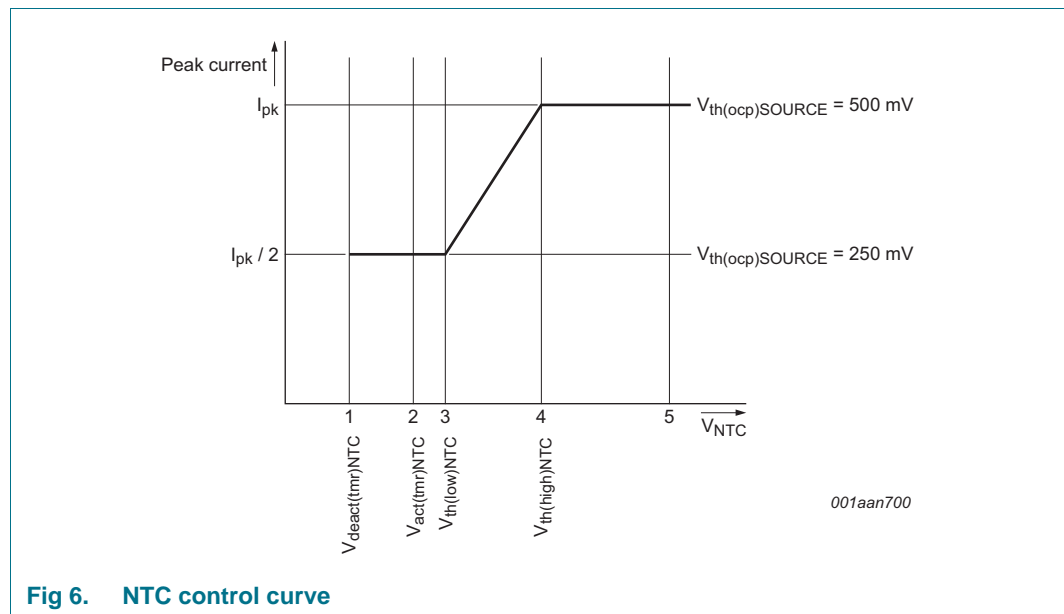

Fig 6. NTC control curve
Alternatively, the pin can be used as an input to disable/enable light output using a digital signal (PWM dimming). The pin has an internal current source which generates a current  $I_{offset(NTC)}$ . An NTC resistor, for monitoring the LED temperature, can be directly connected to the NTC pin. Depending on the resistance value and the corresponding NTC pin voltage, the converter reacts as shown in Figure 6
When the voltage on the NTC pin is higher than  $V_{th(high)NTC}$ , see Figure 6\(4\), the converter delivers nominal output current. When the voltage is lower than this level, the peak current is gradually reduced until  $V_{th(low)NTC}$  is reached, see Figure 6\(3\). The peak current is now half the peak current of nominal operation. When  $V_{act(tmr)NTC}$  is passed, see Figure 6\(2\), a timer starts to run which distinguishes between the following situations:
- If the low-level  $V_{deact(tmr)NTC}$  is not reached within time  $t_{to(deact)NTC}$  Figure 6\(1\), LED overtemperature is detected. The IC stops switching and attempts to restart from the HV pin voltage. Restart takes place when the voltage on NTC pin is higher than  $V_{th(high)NTC}$ , see Figure 6\(4\). It is assumed that the reduction in peak current did not result in a lower NTC temperature and LED OTP is activated.
- If the low-level  $V_{deact(tmr)NTC}$  is reached within the time  $t_{to(deact)NTC}$  Figure 6\(1\), it is assumed the pin is pulled down externally. The restart function is not triggered. Instead, the output current is reduced to zero. PWM dimming can be implemented this way. The output current rises again when the voltage is higher than  $V_{deact(tmr)NTC}$ .
The NTC pin can be used to make a soft start function. During switch-on, the level on the NTC pin is low. By connecting a capacitor (in parallel with the NTC resistor), a time constant can be defined. The time constant causes the level on the NTC pin to increase slowly. When passing level  $V_{th(low)NTC}$  Figure 6\(3\), the convertor starts with half of the maximum current. The output current slowly increases to maximum when  $V_{th(high)NTC}$  Figure 6\(4\) is reached.